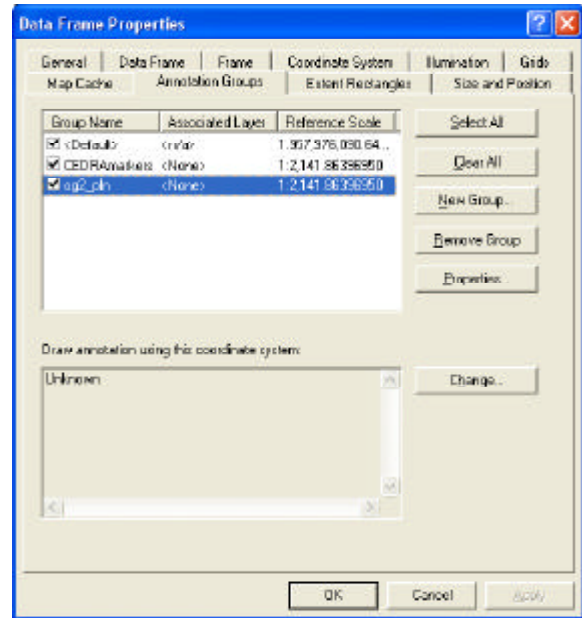

Figure 7 - Annotation Group Layers
- **12** Click at the **View** menu item, select the **Data Frame Properties** command, and activate the **Annotation Groups** tag to display the dialog box of Figure 7.